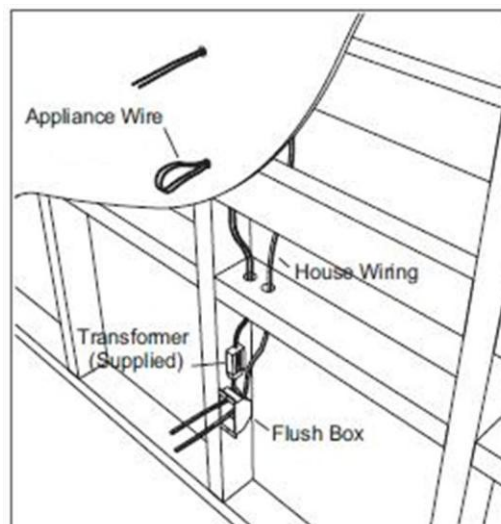

Fig 1.0
- Important. Typical wiring for timber framed walls is shown in Fig 1.0.
- Pull the supplied appliance wire through the 10mm holes as shown in Fig 1.0 and connect to the 12V transformer (also supplied)